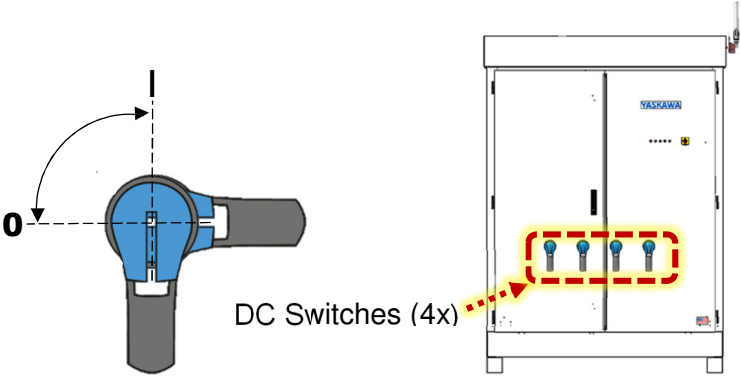

Fig. 3-6. DC Disconnect Switches on Inverter
Make sure the DC disconnect switch handles are all in the OFF (0) position. The DC disconnect switches are load-break rated. See Figure 3-6.